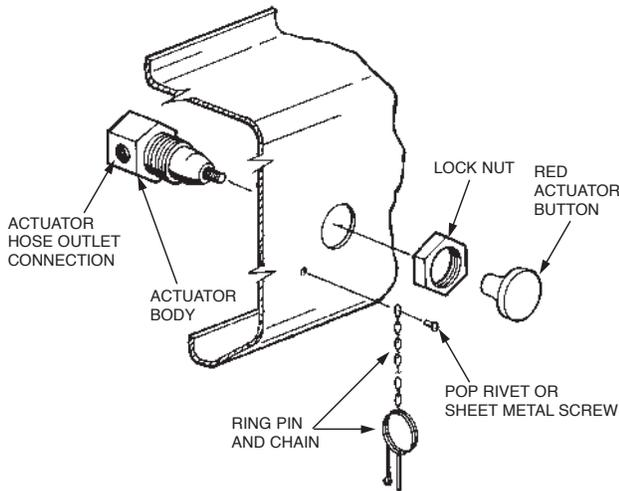

FIGURE 5-12
- Unscrew RED actuator button from actuator stem, remove locknut, and slide actuator body through mounting hole. See Figure 5-12, pg. 5-7.
- Rotate actuator body for desired location of actuation hose outlet connection. Screw locknut firmly onto actuator body and insert ring pin. Apply a non-permanent thread adhesive, such as Loctite 242 or equal, to RED actuator button threads and then screw button onto stem. See Figure 5-12, page 5-7.
The ring pin chain may not be long enough in certain dashboard mounted locations. When this occurs, remove chain from drive pin in actuator body and attach it to an appropriate location using either a pop rivet or a sheet metal screw. See Figure 5-12, pg. 5-7.